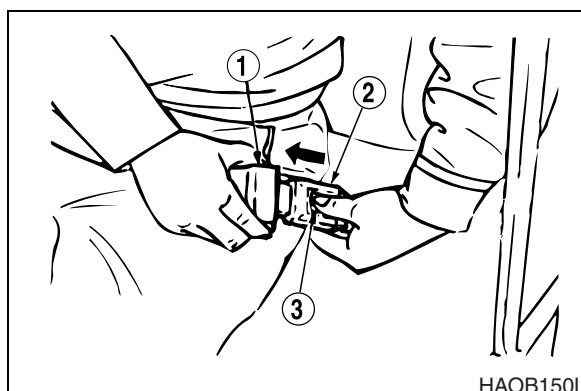

Figure 86
Press the button (3, Figure 86) in the center of buckle (2) and pull out belt (1) to unlock.